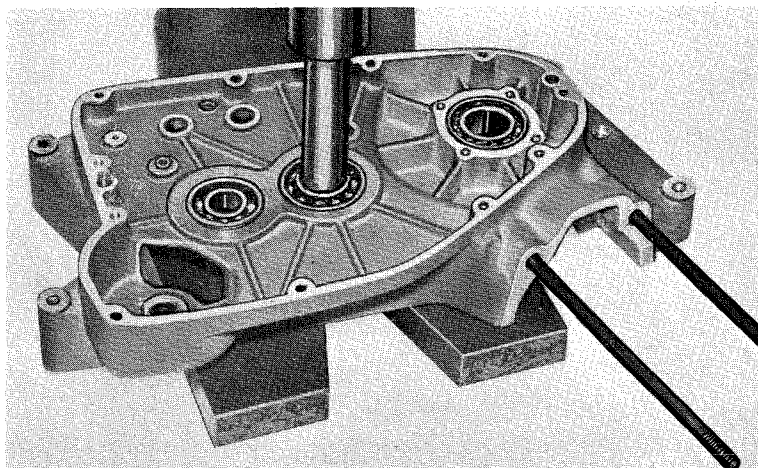

Fig. 1
1. Disassemble the engine and press out the mainshaft bearing bush. See Fig. 1.